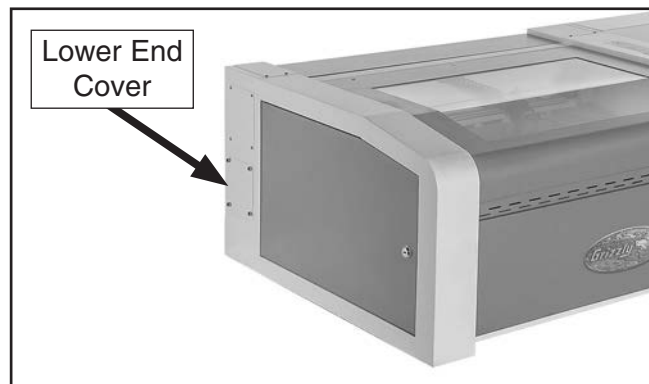

Figure 23. Location of end cover and securing cap screws.
1. Remove lower end cover and (4) cap screws from left side of machine (see **Figure 23**).